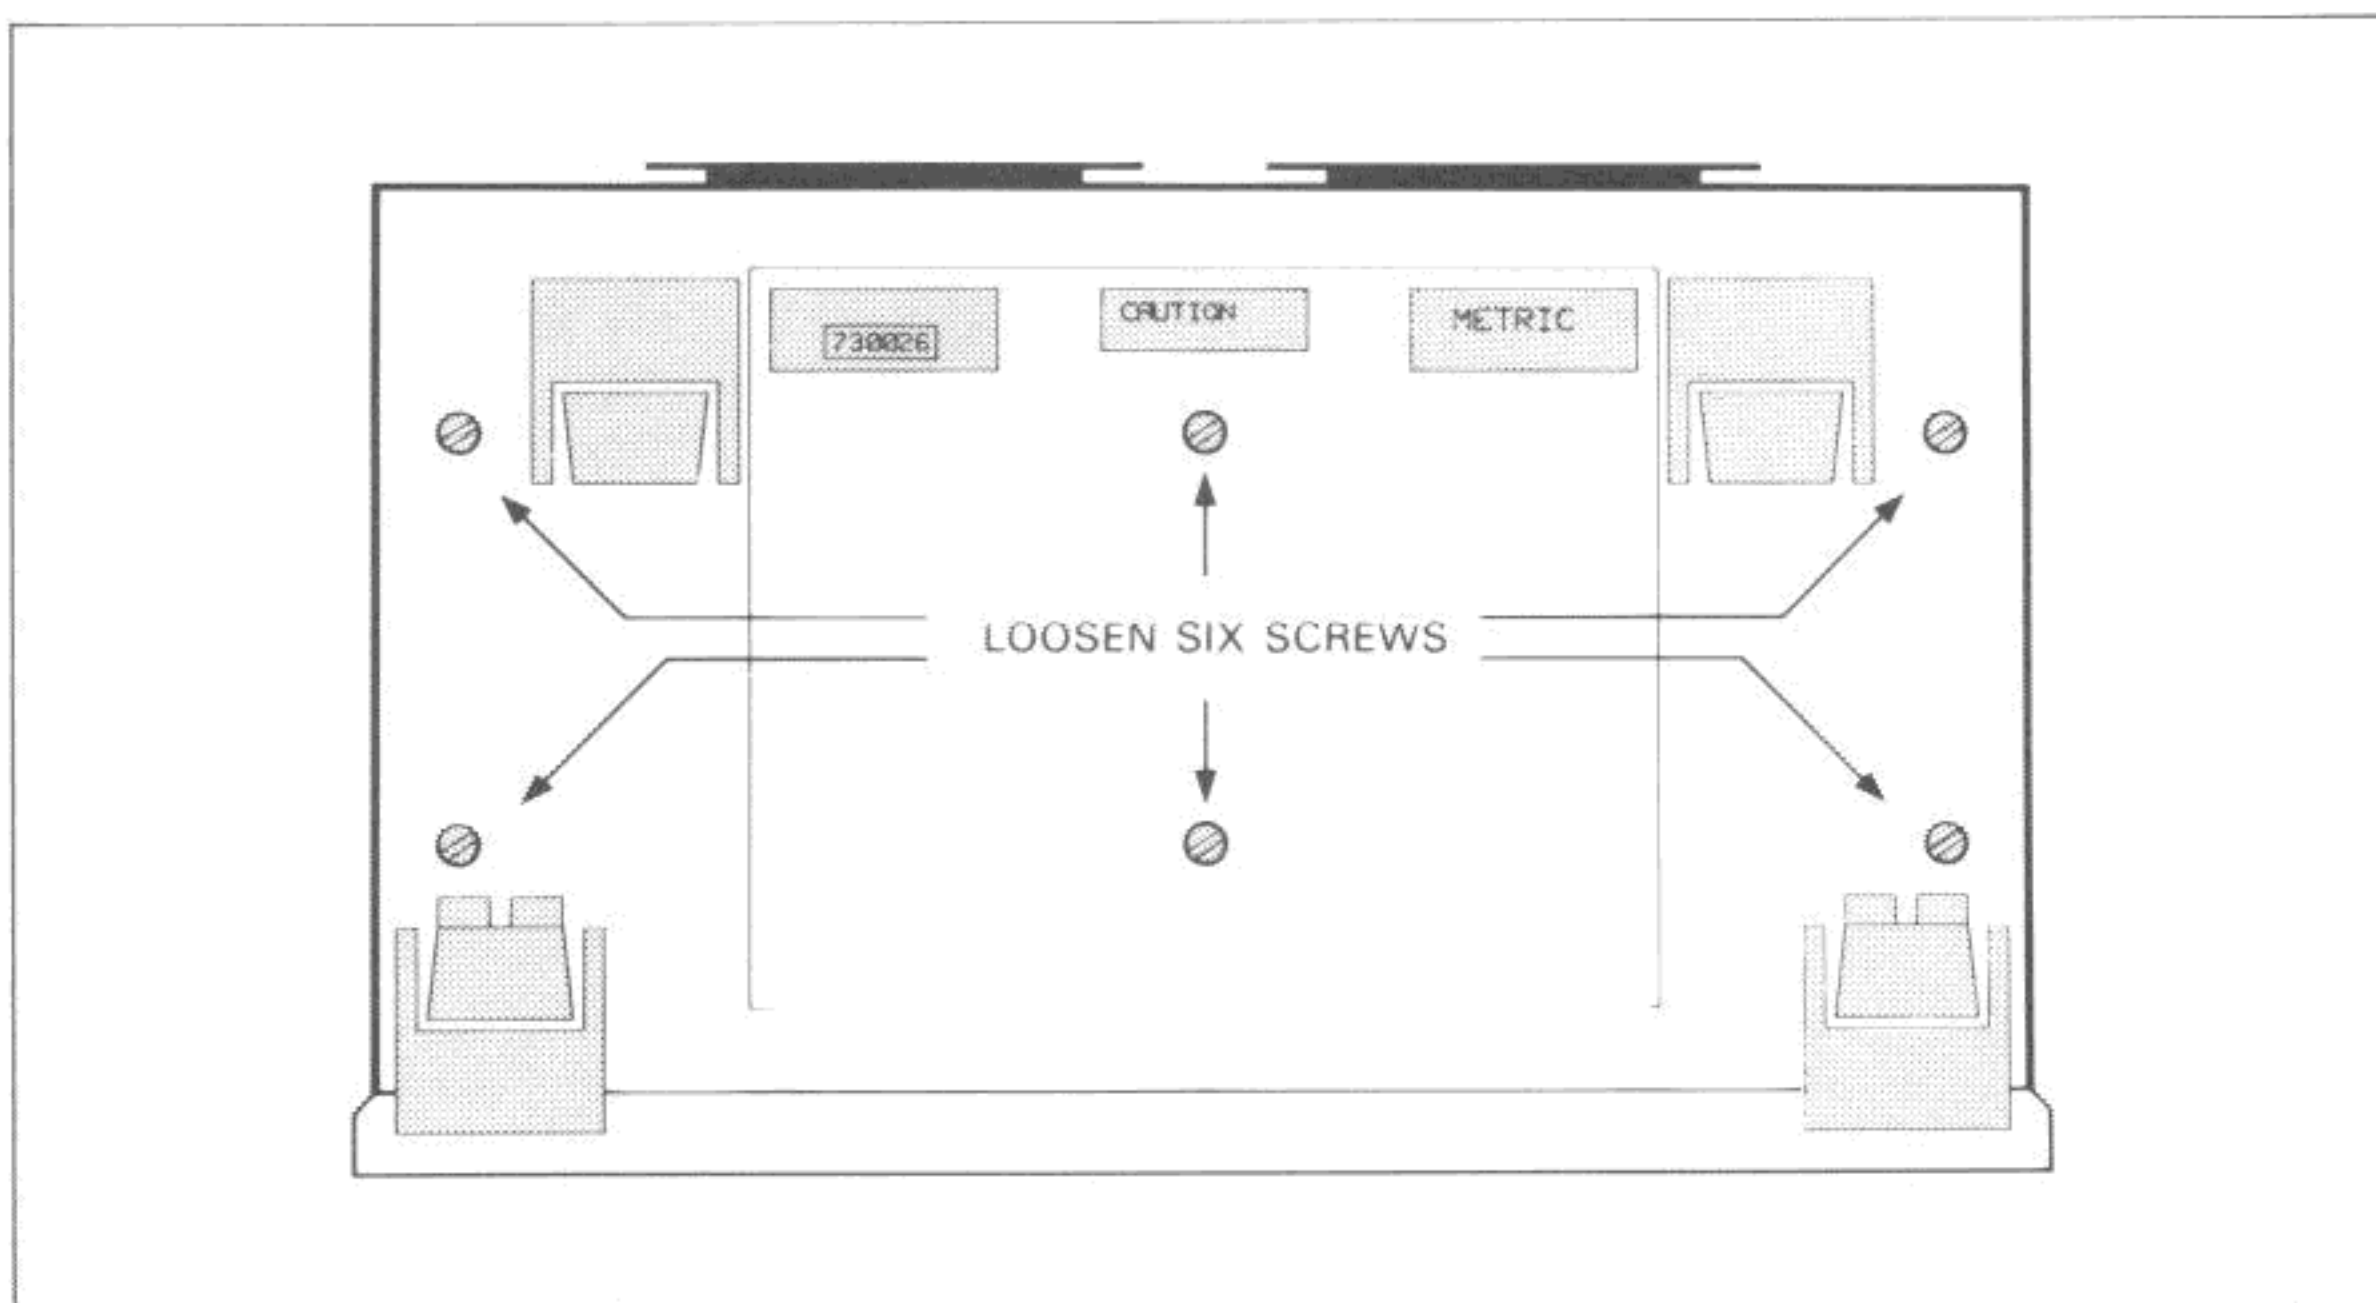

Figure 4-2-1. Loosen Bottom Screws
b. Turn the instrument upside down. This is preferably done on top of a protective mat to reduce the possibility of scratching or marring the instrument case. Refer to Figure 4-2-1 and loosen the six screws on the instrument bottom.